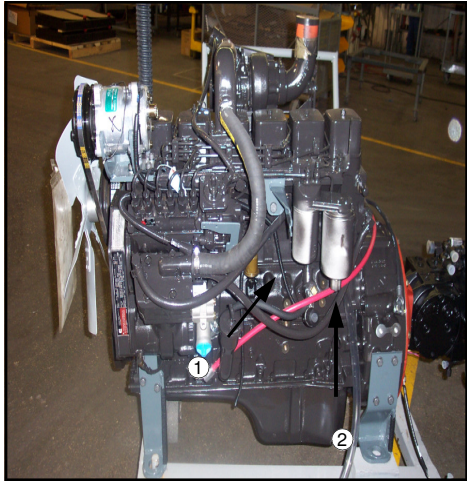

FIG 64-1
**PRIMARY (WATER SEPARATOR)** - (fig. 64-1, item 1) Drain water and sediment from the separator daily. Replace every 500 hours or once a year, whichever comes first.
**SECONDARY** - (fig. 64-1, item 2) Replace every 500 hours or once a year, whichever comes first.
**IN-LINE STRAINER** - (fig. 64-1, item 3) Note direction of fuel flow arrow when replacing.